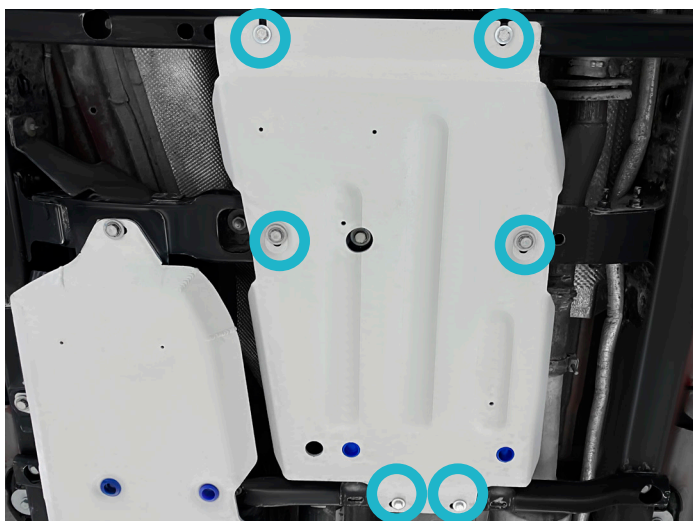

Fig.3
3. Install gearbox skid plate (pos.1). Fix it using bolts M8x25 (pos.A), washers 8 (pos.B) and OE bolts (fig.3).